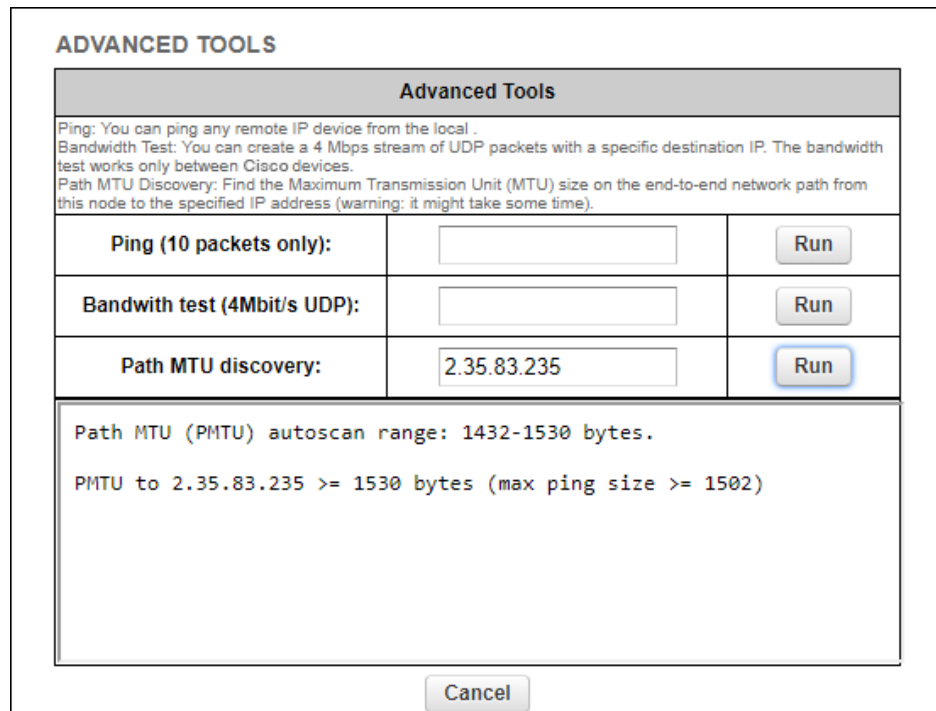

Figure 27. Advanced Tools window (Path MTU test tool)
2. Enter the IP address of the second unit in the **Path MTU discovery** field (Figure 27 (page 65)).